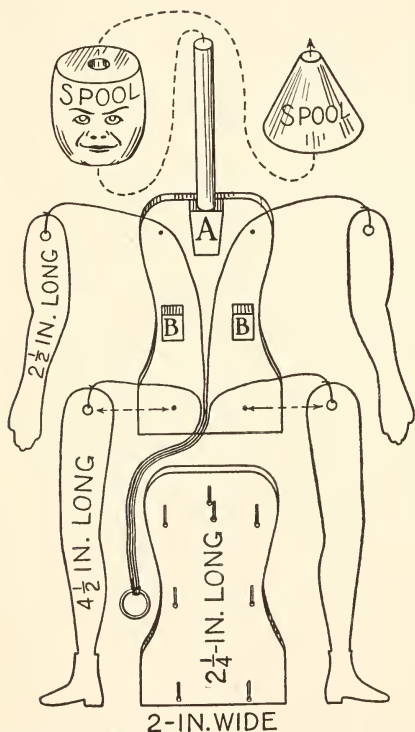

FIG. 113. — Details of Body of the Jumping-Jack shown in Fig. 110.
**A Toy Jumping-Jack** is always amusing, and Fig. 110 shows a simply constructed home-made model. You will see by Fig. 113 how the figure is made. The peaked *hat*
is half a spool tapered down from the end to the center; and the *head* is the center from a darning-cotton spool, shaped down at one end for a *neck*, and with eyes, nose, and mouth cut in on one side. Figure 113 shows the diagrams for the front and back of the *body*, the *arms*, and the *legs*. These are cut out of cigar-box wood. Cut the neck stick *A* long enough to run through the head and hat, with a square block on the end to fit between the body pieces. The blocks *B* should be of the same thickness as block *A*. Bore the pivotal holes through the arms and legs in the positions shown, using a small gimlet or red-hot nail with which to do the boring, and tie a piece of heavy linen thread through each as shown. The arms and legs are pivoted on brads driven through the front of the body into the back.